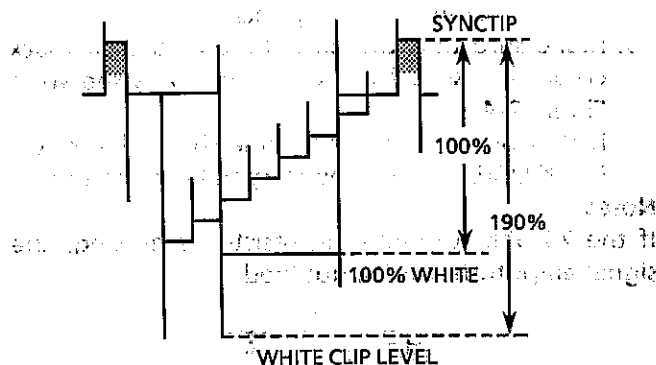

Figure 2-3.
3. Adjust R203 so that the overshoot of the video signal is clipped at 190% as shown in Figure 2-3.